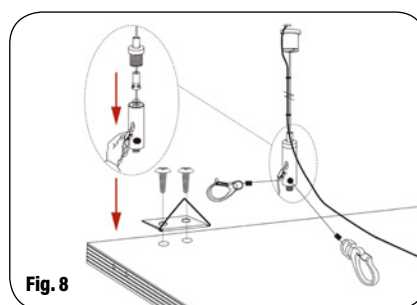

Fig. 8
2. Install brackets to the edge of the panel. Attach cables and adjust the hanging rope so that the panel hangs level. (Fig. 8)